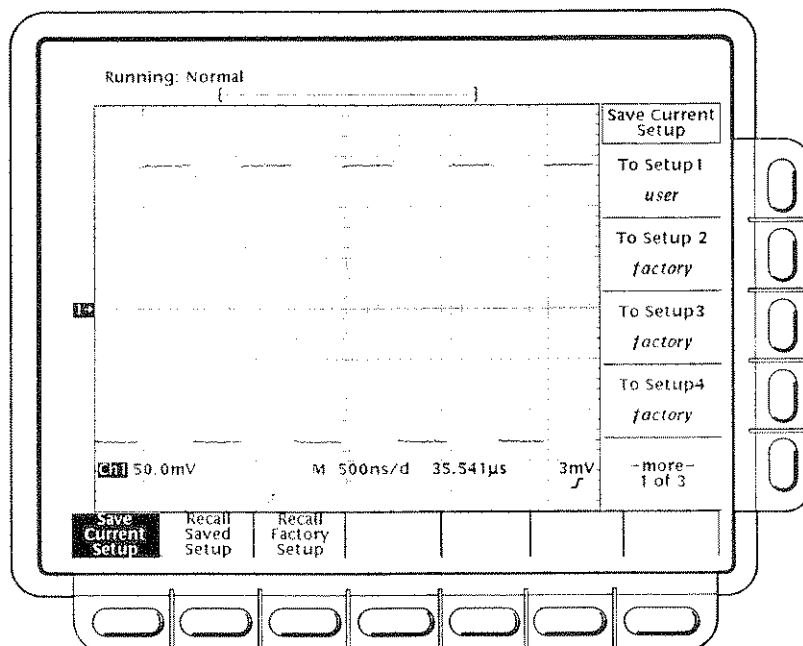

Figure 3-51: Save/Recall Setup Menu
To save the current setup of the digitizing oscilloscope (Figure 3-51):
2. Choose one of the ten storage locations from the side menu **To Setup 1**, **To Setup 2**, ... (see Figure 3-51). Now the current setup is stored in that location.